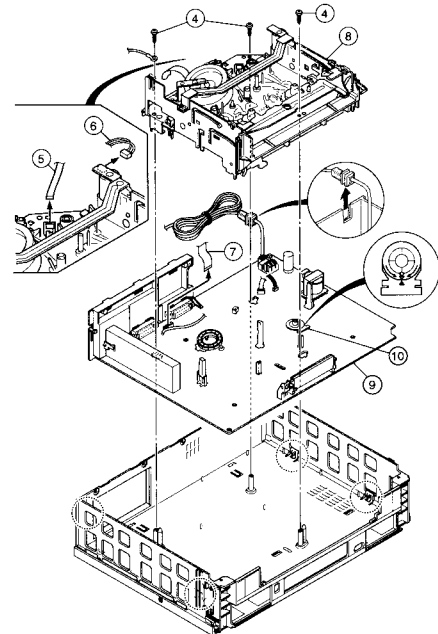

Figure 2
2. REMOVING THE DECK MECHANISM AND THE MAIN PCB FROM THE CHASSIS (FIGURE 2)
- ④ Remove the screws.
- ⑤ Disconnect the Flexible Wire from the CTL Head PCB.
- ⑥ Disconnect the QS-Connector from the Motor PCB.
- ⑦ Disconnect the Flexible Wire of Cylinder Head from the Connector-Post on the Main PCB.
- ⑧ Remove the Deck Mechanism
- ⑨ Remove the MAIN PCB from the some prongs on the chassis.